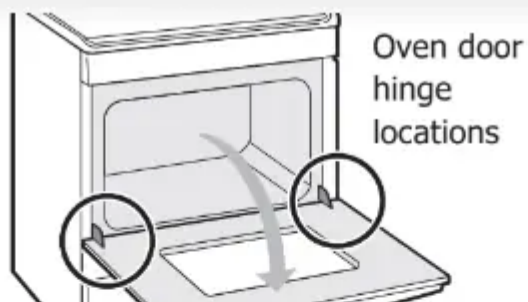

Figure 16: Door hinge location
3. Fully open the oven door, horizontal with floor (See Figure 16).